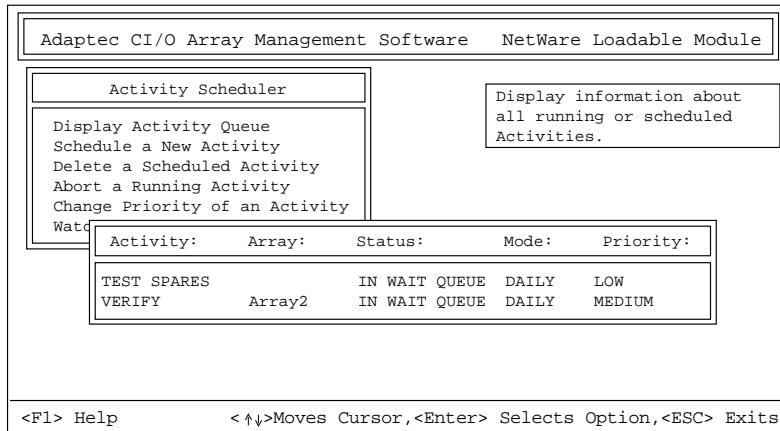

Figure 6-2. Scheduled Activity Information Window
- 2 Select **Display Activity Queue** from the Activity Scheduler menu. A screen similar to Figure 6-2 appears.
- 2 Select **Delete a Scheduled Activity** from the Activity Scheduler menu. A screen similar to Figure 6-2 appears.